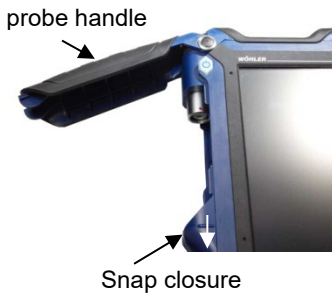

Fig. 19: Wöhler A 550 with open probe compartment
- Before the first start up activate the batteries by pushing the transport lock in the probe compartment (see Fig. 19) to the connector, see figure on the left. Use a pointed object to do so.